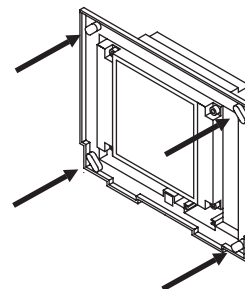

Fig. 64
3. Insert unit into flush-mounting box and tighten screws (Fig. 64).